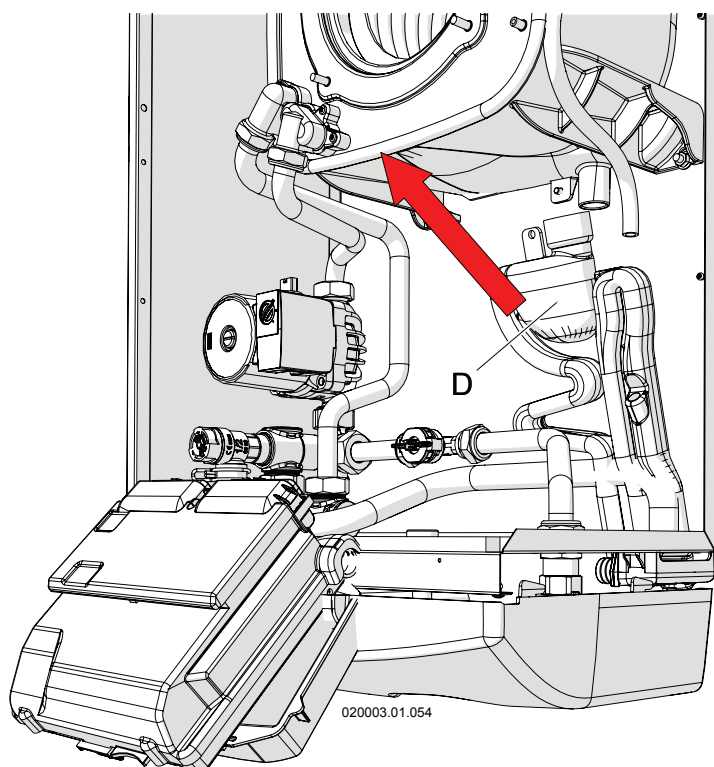

Figure 8-7 – Removing the condensate collection siphon
- 1.- With the boiler on, open a domestic hot water tap fully so that the burner runs at maximum power and the level of liquid inside the siphon tank "D" lowers (see Figure 8-7);
- 7.- Extract the siphon by moving it outwards (see Figure 8-7), taking care to disconnect the collection pipes for the water coming from the upper part of the appliance and from the air vent valve.